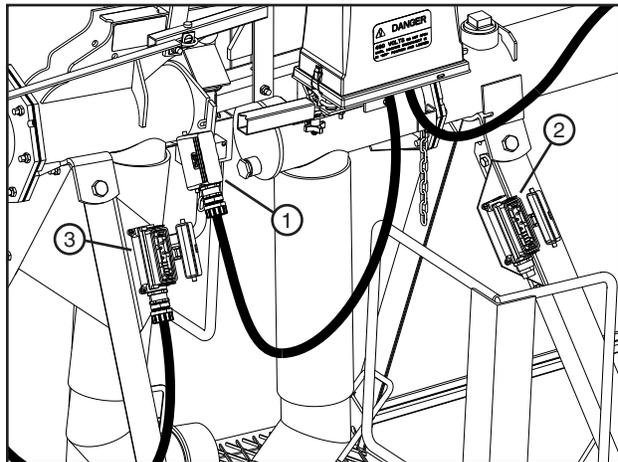

Figure 26-2 1. Span Cable 2. Inner Span Socket 3. Outer Span Socket
4. Unplug the span cable from the outer spans electrical socket. See Figure 26-2.
5. Unlock the weather tight guard and plug the span cable into inner span electrical socket, locking it in place. See Figure 26-2.
6. Close and lock the weather tight cover on the outer span electrical socket. See Figure 26-2.